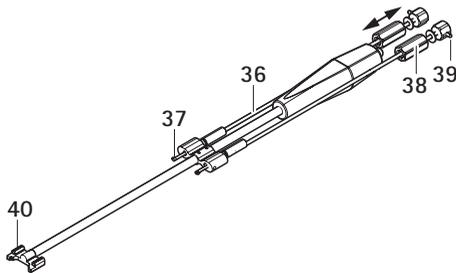

Fig. 10 Assembling revision instruments for endplates
- ▶ Slide the lock nuts **38** along the anchoring rods **36** as far as the threaded rods, see Fig. 10.